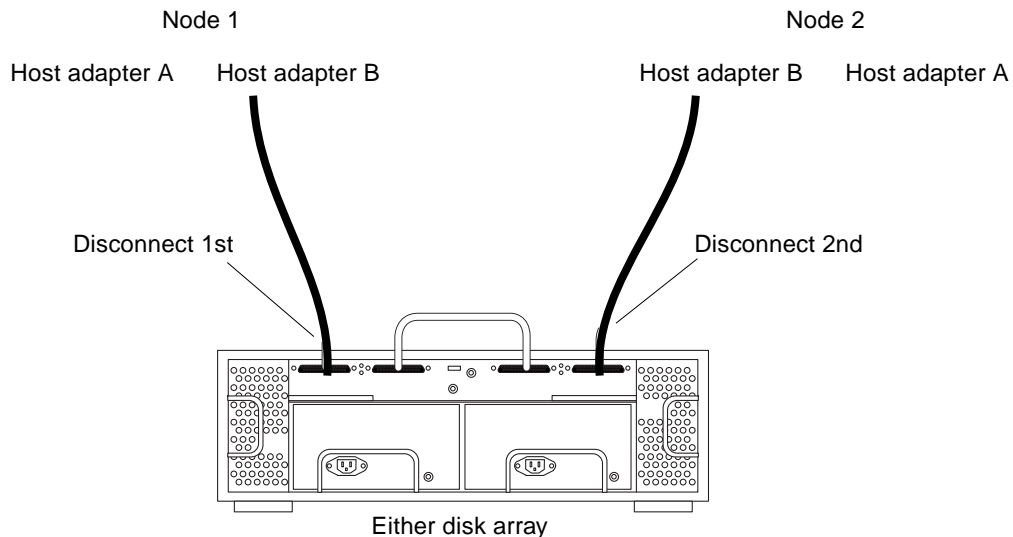

FIGURE 5-4 Disconnecting the SCSI Cables
3. **Disconnect the SCSI cables from the StorEdge D1000 disk array, removing them in the order that is shown in FIGURE 5-4.**
6. **Connect the SCSI cables to the new StorEdge D1000 disk array, reversing the order they were disconnected, as shown in FIGURE 5-4.**